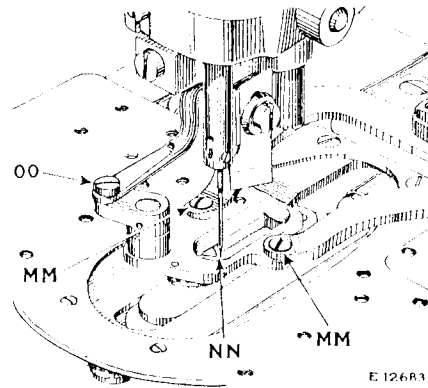
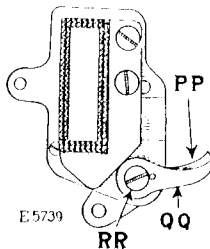

Fig. 25. Adjustments for Setting Upper Thread Trimmer
Fig. 26. Showing Upper Thread Trimming and Clamping Blades
Remove the screw (OO, Fig. 25) from the connecting rod and take out the two clamp arm screws (MM, Fig. 25), then remove the clamp check from the machine. Remove the screw (RR, Fig. 26) from the underside of the clamp check which holds the clamping and trimming blades in position and remove the blades.
When replacing the blades, place the clamping blade (PP, Fig. 26) in position first next to the clamp check then put on the
trimming blade (QQ, Fig. 26) and securely fasten both blades in position by means of the screw (RR), being careful to set the clamping blade about  $\frac{1}{16}$  inch in advance of the trimming blade as shown in Fig. 26. Then fasten the clamp check to the machine by means of the three screws (OO and MM, Fig. 25).
When the trimming blade is being moved into cutting position, it must clear the needle by  $\frac{1}{32}$  inch as shown at NN in Fig. 25, when the needle is on the inside throw on the finishing side of